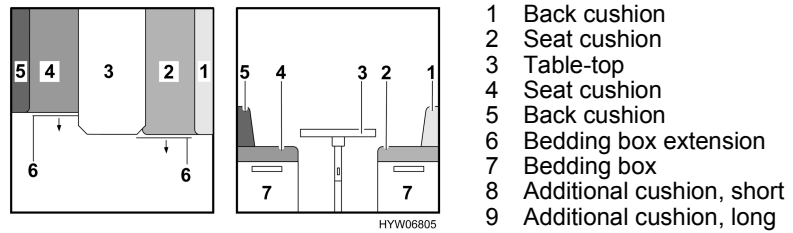

Fig. 35 Prior to conversion
- Slightly lift the front of the table-top (Fig. 35,3).
- Lay the two seat cushions in position (Fig. 35,2 and Fig. 35,4).